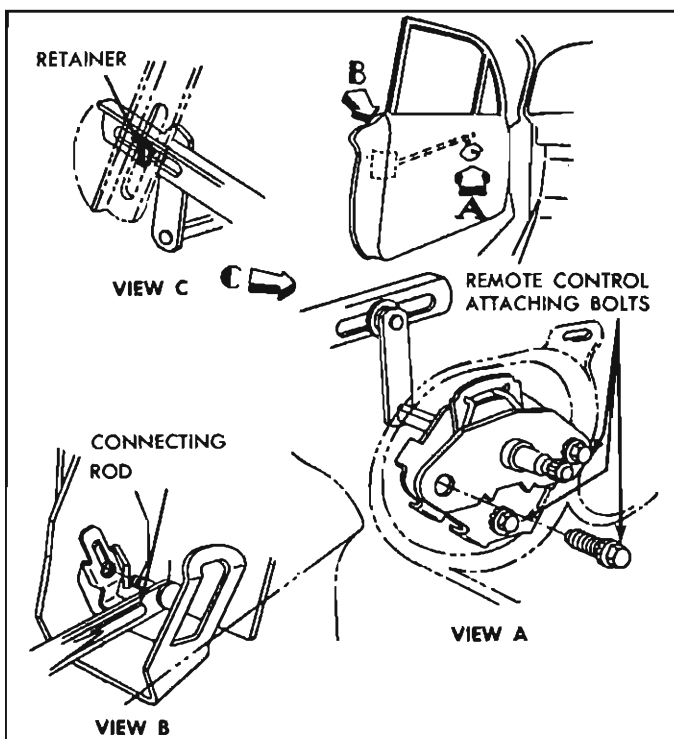

Fig. 11—Front Door Remote Control Assembly Removal
2. Disengage spring clip securing connecting rod to door lock remote control lever and disconnect rod from lock (See View "B" in Figure 11).
2. Remove three bolts securing remote control assembly to door inner panel (See View "A" of Figure 11).
3. While holding remote control connecting rod, rotate remote control approximately 1/4 turn to disengage remote retainer from slot in connecting rod (See View "C" in Figure 11).